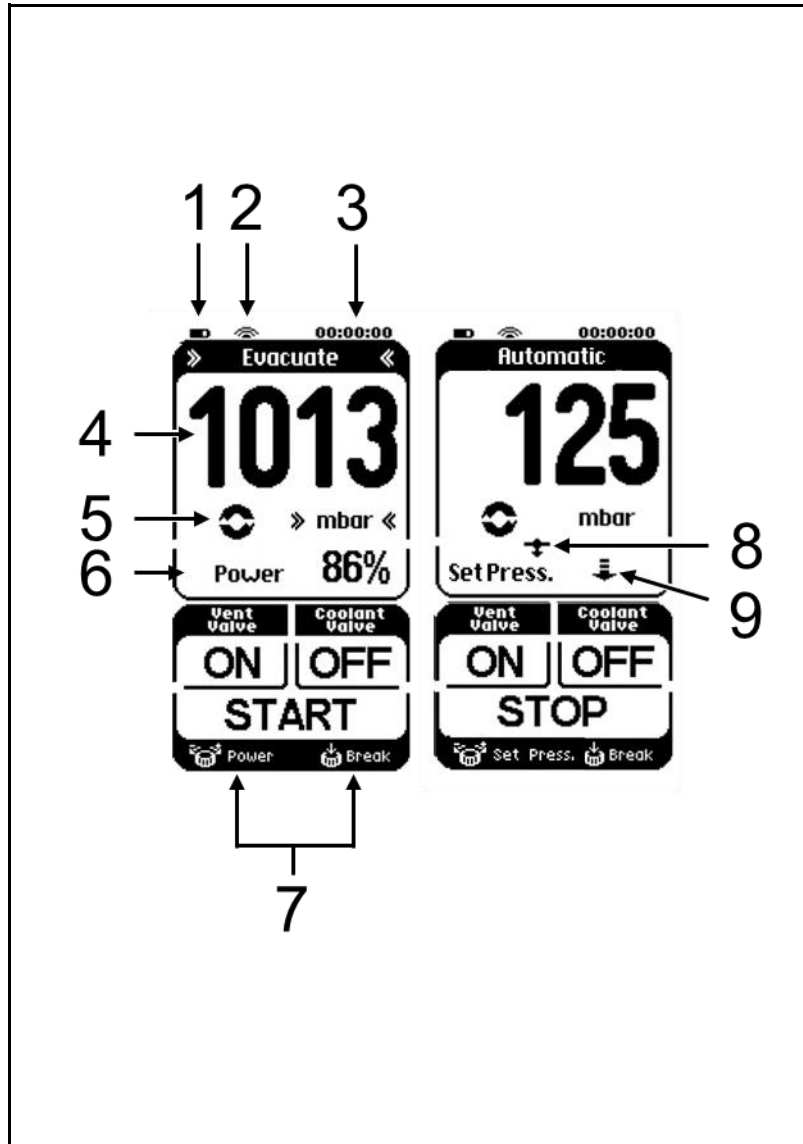

Fig. 8: Display on the touchscreen
- Display of the most important process variables (Fig. 8, page 25).